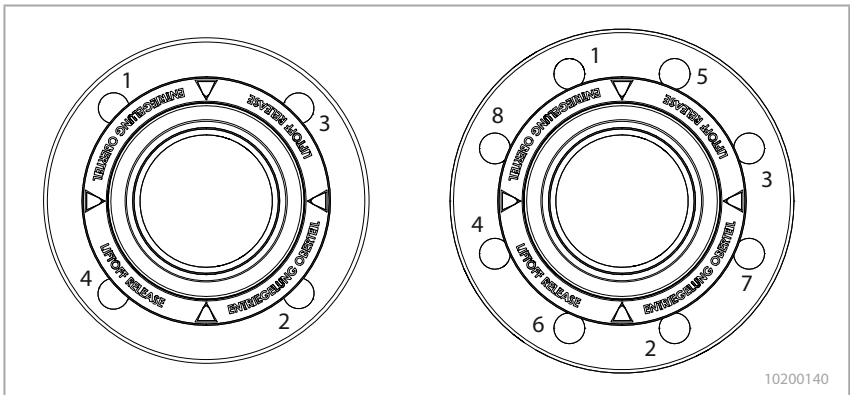

Fig. 6 Order in which screws are tightened
4. Tighten the screws on the flange according to the order in Fig. 6: